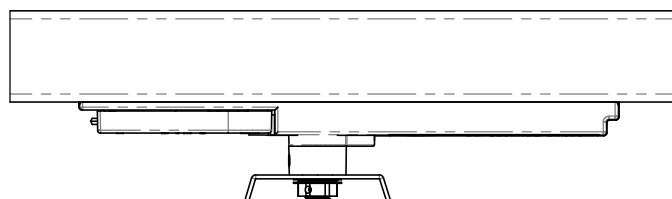

FIGURE 2. INSERTED FITTING
3. INSERT THE FITTING STRAIGHT UP INTO THE TRACK UNTIL FULLY SEATED (**FIG. 2**).